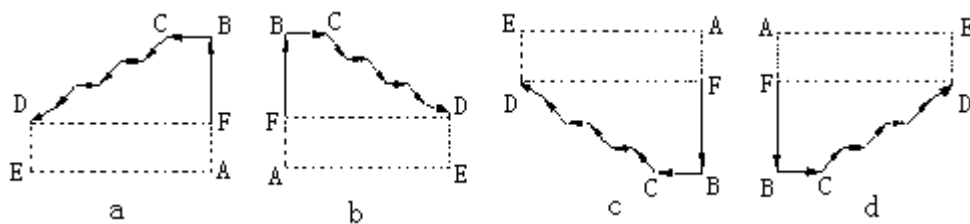

Fig. 4-38
- 13) There are four shaper in G71: Fig. 4-38, A is G71 starting point, B is the finishing starting point, D is finishing end point, BCD section is the finishing path.